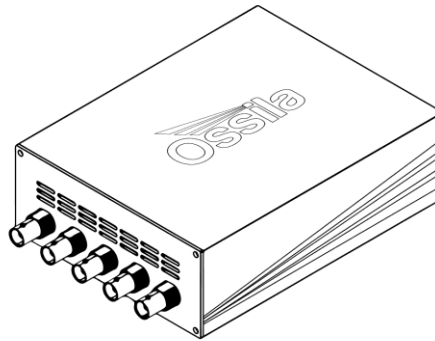
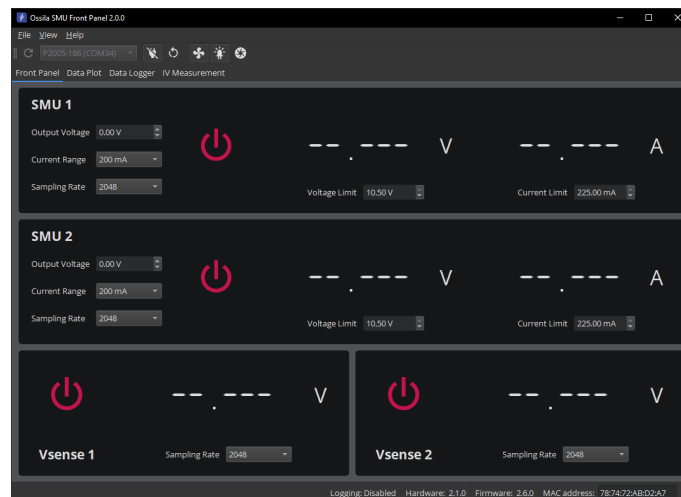

Figure 6.1. The Ossila Source Measure Unit.
Figure 6.2. The Ossila SMU Front Panel software.
The Ossila Source Measure Unit is comprised of the Ossila Source Measure Unit (**Figure 6.1**) and the Ossila SMU Front Panel Software (**Figure 6.2**).
1. Start the Ossila SMU Front Panel software and the window shown in **Figure 6.2** will open.